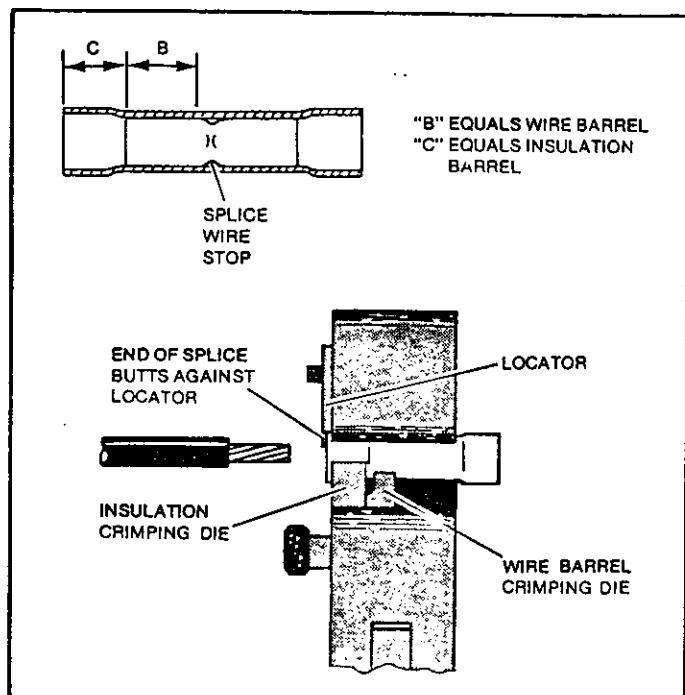

Figure 2
- Place splice in crimping dies so that end of splice butts against locator as shown in Figure 2.
- Insert stripped wire until end of conductor butts against splice wire stop. See Figure 2.
- ① Splice insulation barrel is in contact with wire insulation.
- ② Correct color code, dot code, and tool combination. (Yellow, one dot.)
- ③ Wire size is within wire range of splice (12 thru 10 AWG).
- ④ Crimps centered on wire barrels of splice.
- ⑤ End of conductor against wire stop of splice.
- ⑥ Wire insulation does not enter wire barrel of splice.
- ⑦ No nicked or missing conductor strands.
- ① Splice insulation barrel is not in contact with wire insulation (crimp again with tighter insulation crimp adjustment).
- ② Wrong dot code and color code combination. (Must be yellow with one dot.)
- ③ Wire size is not within wire range of splice. (Use only 12 thru 10 AWG.)
- ④ Crimp not centered on wire barrel of splice. (Splice was not butted against locator. See Figure 2).
- ⑤ End of conductor is not against wire stop of splice. (Check for correct strip length.)
- ⑥ Wire insulation entered wire barrel of splice.
- ⑦ Nicked or missing conductor strands.
- ⑧ Excessive flash or extruded insulation, (wrong tool and splice combination, or damaged dies).